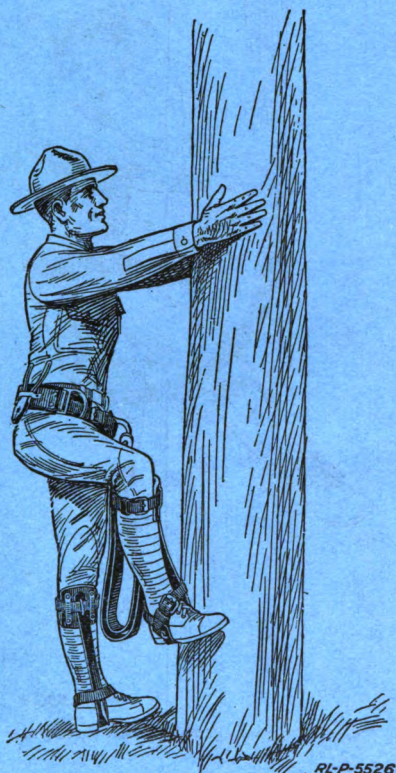

Fig. 3.—Climbing pole, first step
angle of about  $30^{\circ}$ . (See Fig. 3.) Always keep the knees and the body well away from the pole. (See Fig. 5.) Do not attempt to climb high at first, as it is considerably more difficult for a beginner to descend than to ascend.
5. *Climbing.*—*a.* Raise the right foot about ten inches from the ground, keeping it about one inch from the pole, and with a downward thrust engage the spur of the climber in the face of the pole about eight inches from the ground. (See Fig. 3.)